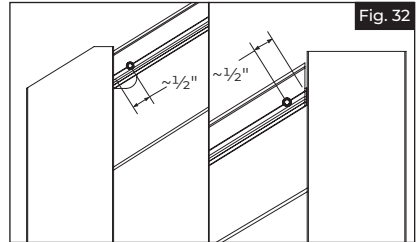

Fig. 32
- b. Place beam between posts and press onto brackets. Use provided hex head screws and attach one screw at the end of the beam at each post (one at upper post and one at lower post). Use the line etched into the beam as a guide for your screw. Screw should be on the line and approximately  $\frac{1}{2}$ " from the end of the beam (Fig. 32).